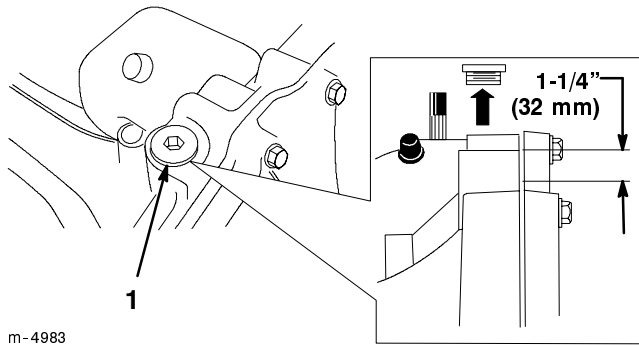

Figure 33
2. Clean around the fill plug (Fig. 33) so dirt cannot fall into the reservoir if fluid needs to be added.
3. Remove the fill plug and check the fluid level. The level should not be more than 1-1/4" (32 mm) below the top of the fill port (Fig. 33). Add oil if necessary.